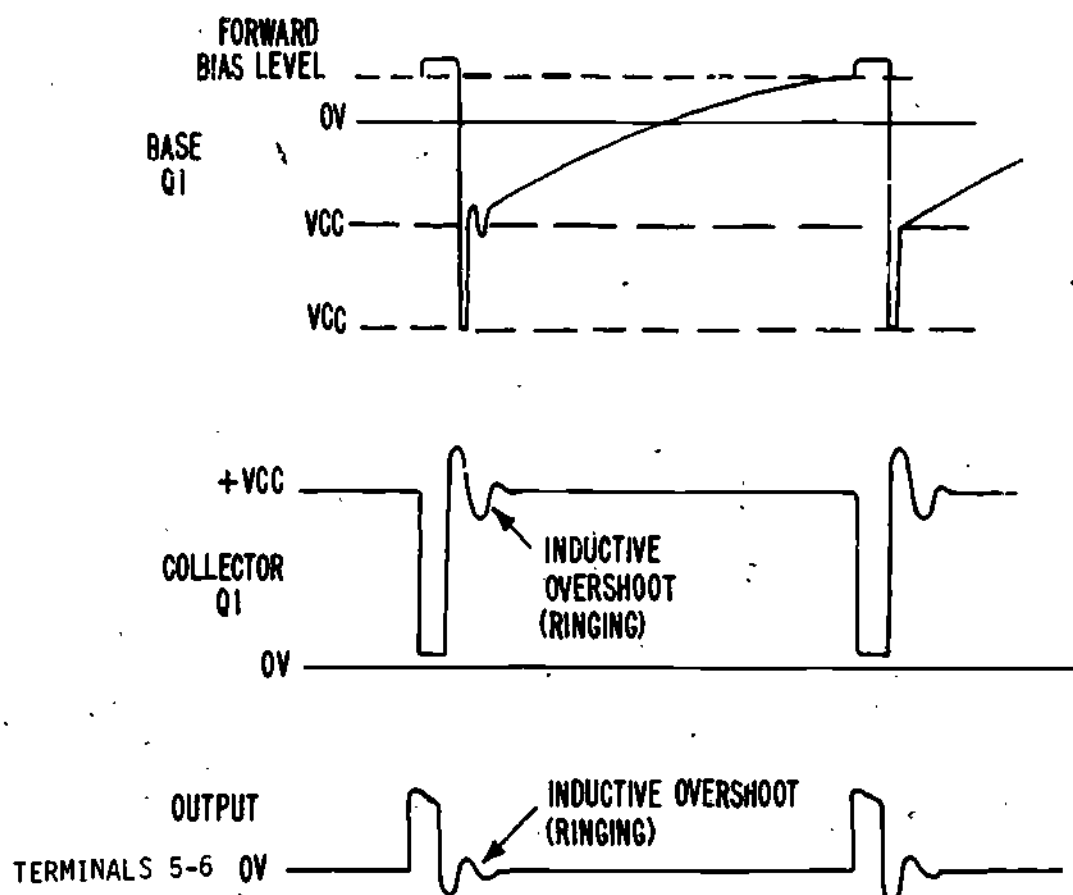

Figure 11
16. The waveforms shown in Figure 11 are included to help you understand the operation of the blocking oscillator circuit.